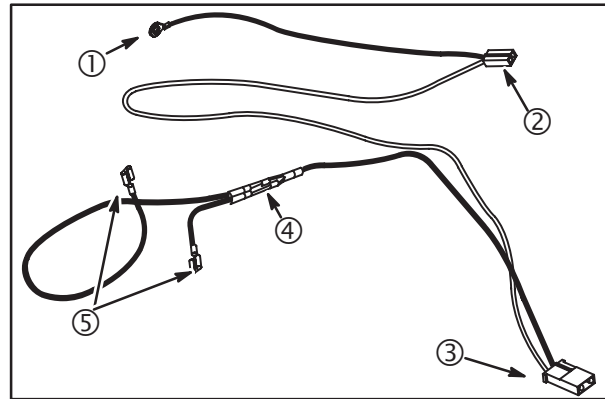

**Fig. 44**
1. Disconnect output harness (3) at WHITE connector (4), **Fig. 44**.
2. Attach one end of jumper wire (5) to a good ground.
3. Attach other end of jumper wire (6) to charge indicator terminal in harness connector, **Fig. 44**.
- a. Turn key switch to ON position (1).
- b. If bulb (2) **LIGHTS**, charge indicator wiring system is OK. Replace regulator/rectifier.